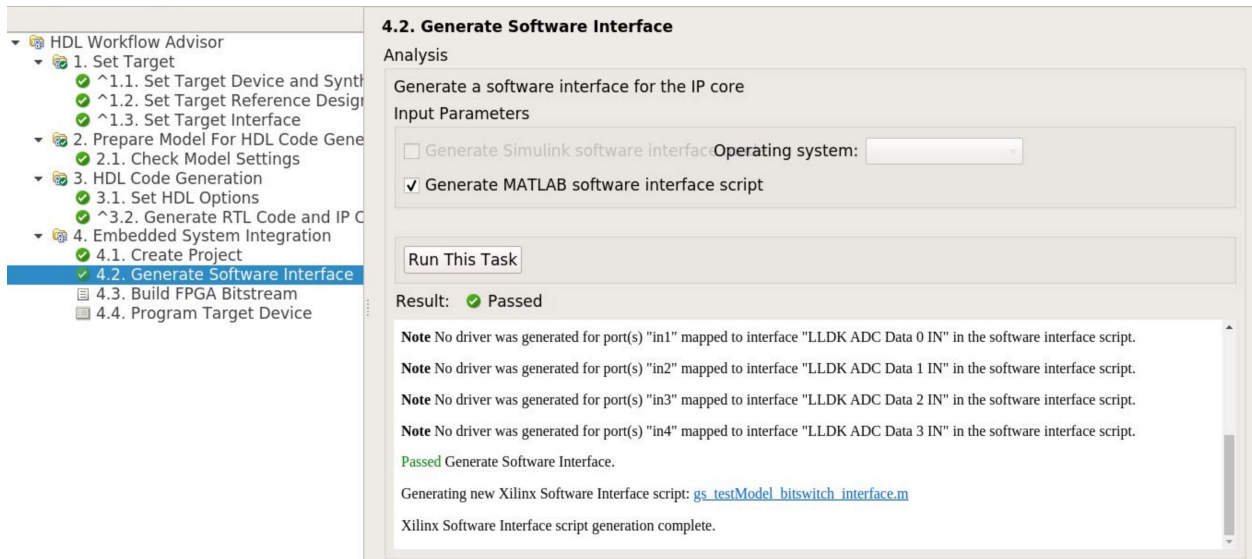

Figure 17. Generate Software Interface
4.2 Run the task in Figure 17.